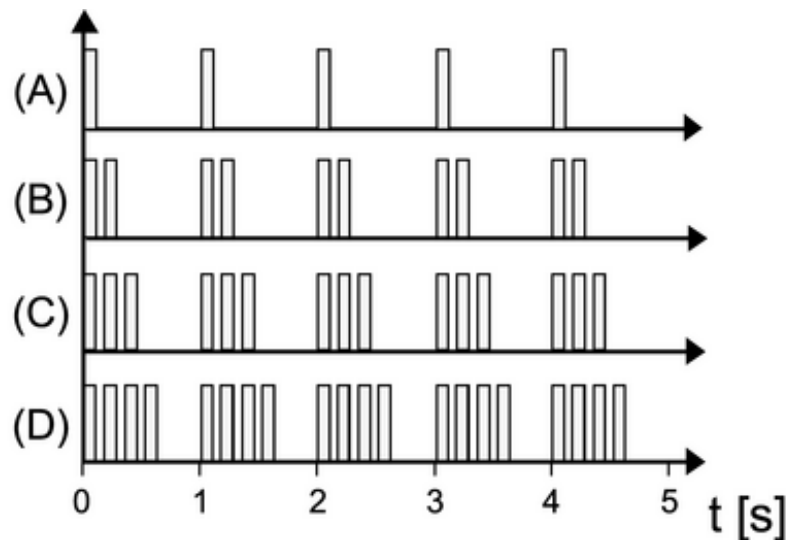

Figure 11: LED indication of the operating modes
The operating mode currently set is indicated by flashing of the LED (2) (Figure 11).